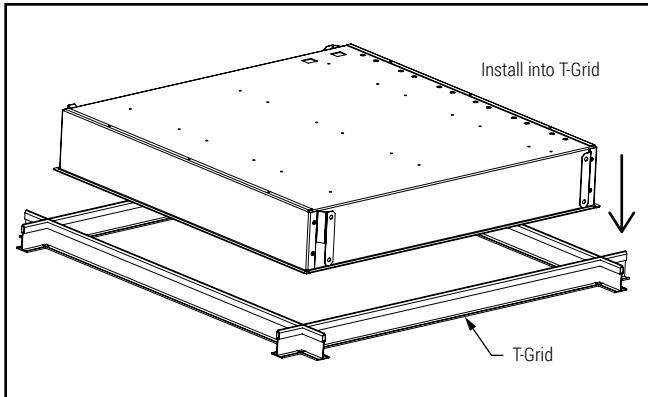

Figure 3.
6. Install fixture into T-grid. (Figure 3.)